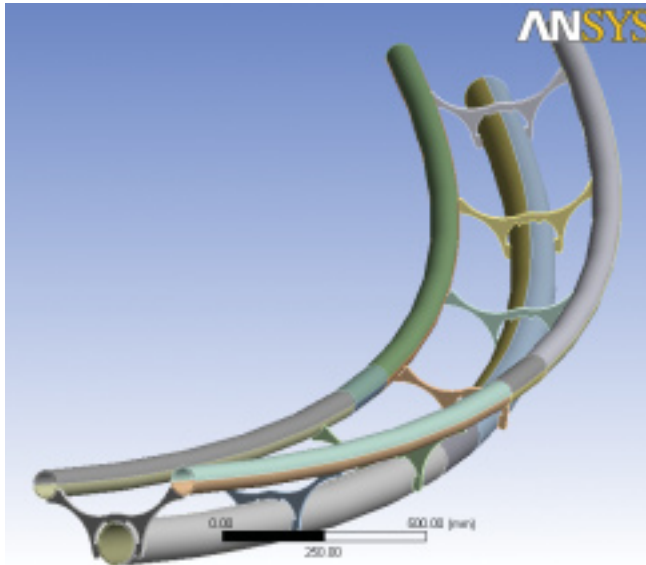

Figure 1. Full CAD model of a curved tubular assembly
Step 1. Build/import the model from CAD. To illustrate this process, a sample analysis is performed to determine stresses on a tubular welded assembly with a regular pattern of joints. It represents a small sample section of a repetitive structure that forms the track of a roller coaster. The model shown in Figure 1 has been created using ANSYS DesignModeler software.